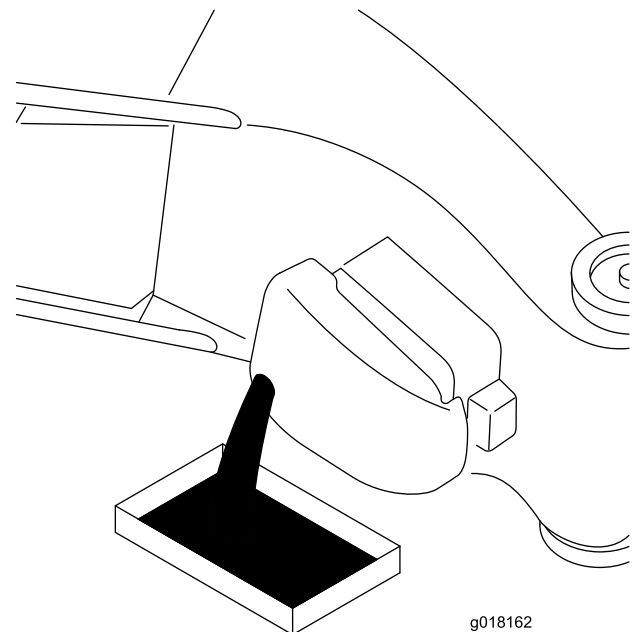

Figure 19
- Tip the mower onto its side, with the air filter up, to drain the used oil out through the oil fill tube (Figure 19).